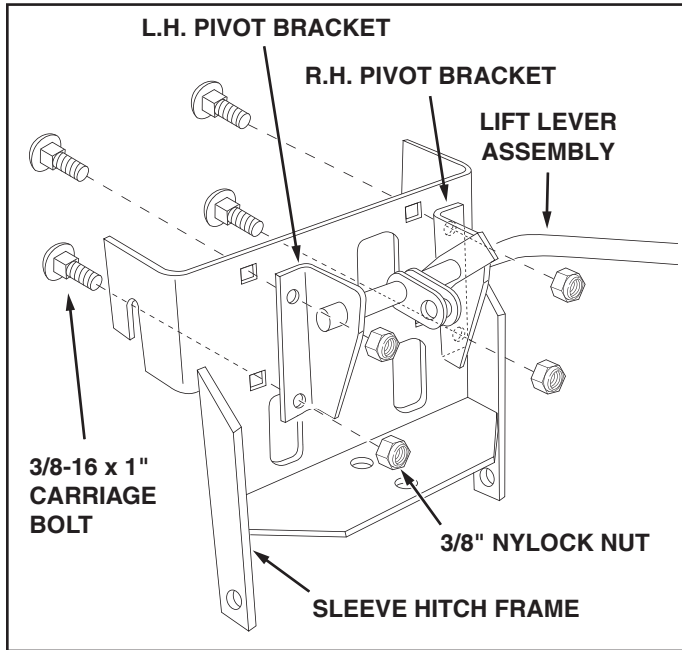

FIGURE 3
- Place the L.H. Pivot Bracket onto the end of the Lift Lever Assembly (the R.H. Pivot Bracket comes already installed on the assembly). See figure 3.
- Attach the R.H. and L.H. Pivot Brackets to the Sleeve Hitch Frame Assembly using four 3/8" x 1" carriage bolts and 3/8" nylock nuts. See figure 3.